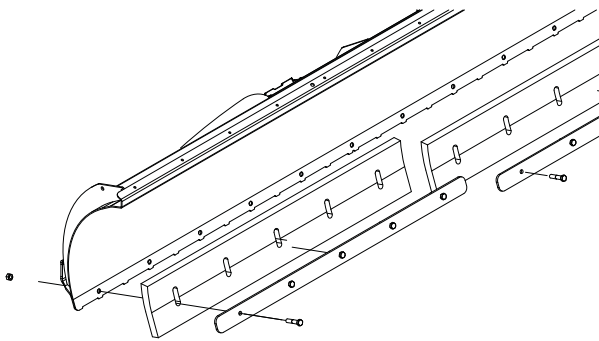

Fig 26.
- 2 Insert the bolts provided with the rubber edge through the steel strip, the rubber edge, and the base of the moldboard. ⇒ Fig 26. \(□A-31\). Loosely secure the